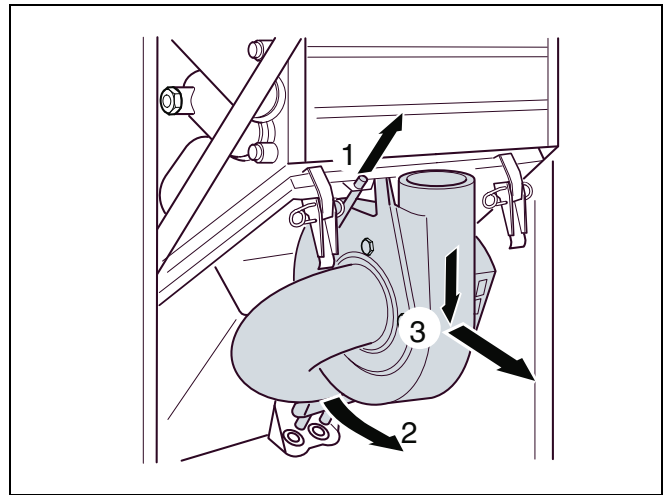

fig. 46 Removing the fan
- Push up the fan (fig. 46, item 1).
- Pivot the lower end of the fan forward (fig. 46, item 2) and take it out downwards and forwards (fig. 46, item 3).